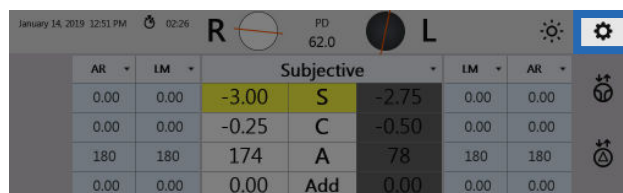

Figure IS-06, Settings
1. Tap **Settings**, located at the top right of the Controller screen. Refer to Figure IS-06